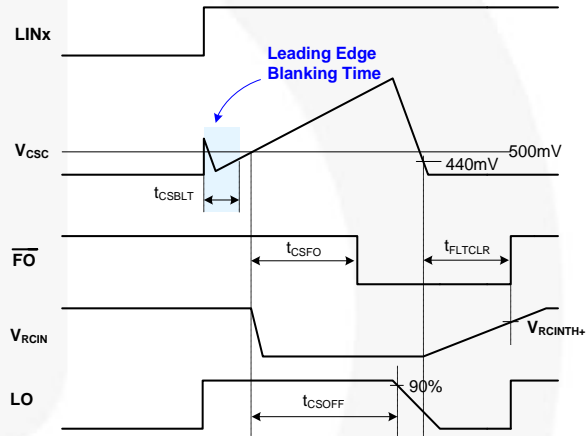

Figure 44. RCIN and Fault-Clear Waveform Definition
Figure 44 shows the waveform definitions of RCIN, FO, and the low-side driver; which uses a soft turn-off method when an under-voltage condition of the low-side gate driver supply voltage (V_{DD}) or the current-sense pin (CS) recognizes a fault. If a fault condition occurs, the FO Pin is internally pulled to COM and all outputs (HO1, 2, 3 and LO1, 2, 3) of the gate driver are turned off. Low-side outputs decline linearly by the internal sink current source ($I_{SOFT}=40\text{mA}$) for soft turn-off, as shown in Figure 44.